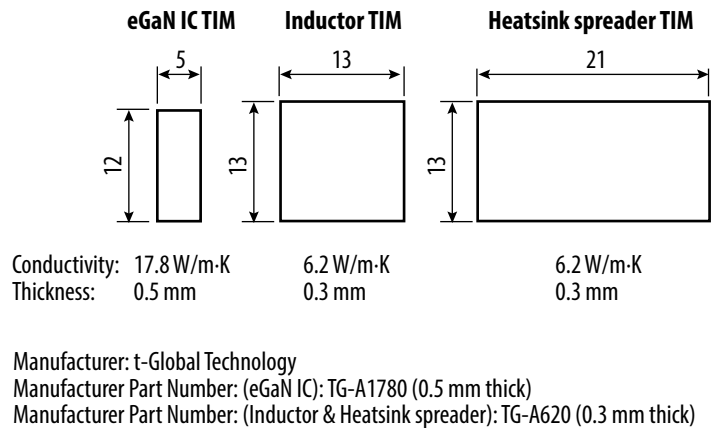

Figure 12: Details of the TIM's used on the EPC91106 evaluation board.
- A thermal interface for the eGaN IC, see figure 12
- A thermal interface for the Inductor, see figure 12
- A thermal interface for the heat-spreader, see figure 12